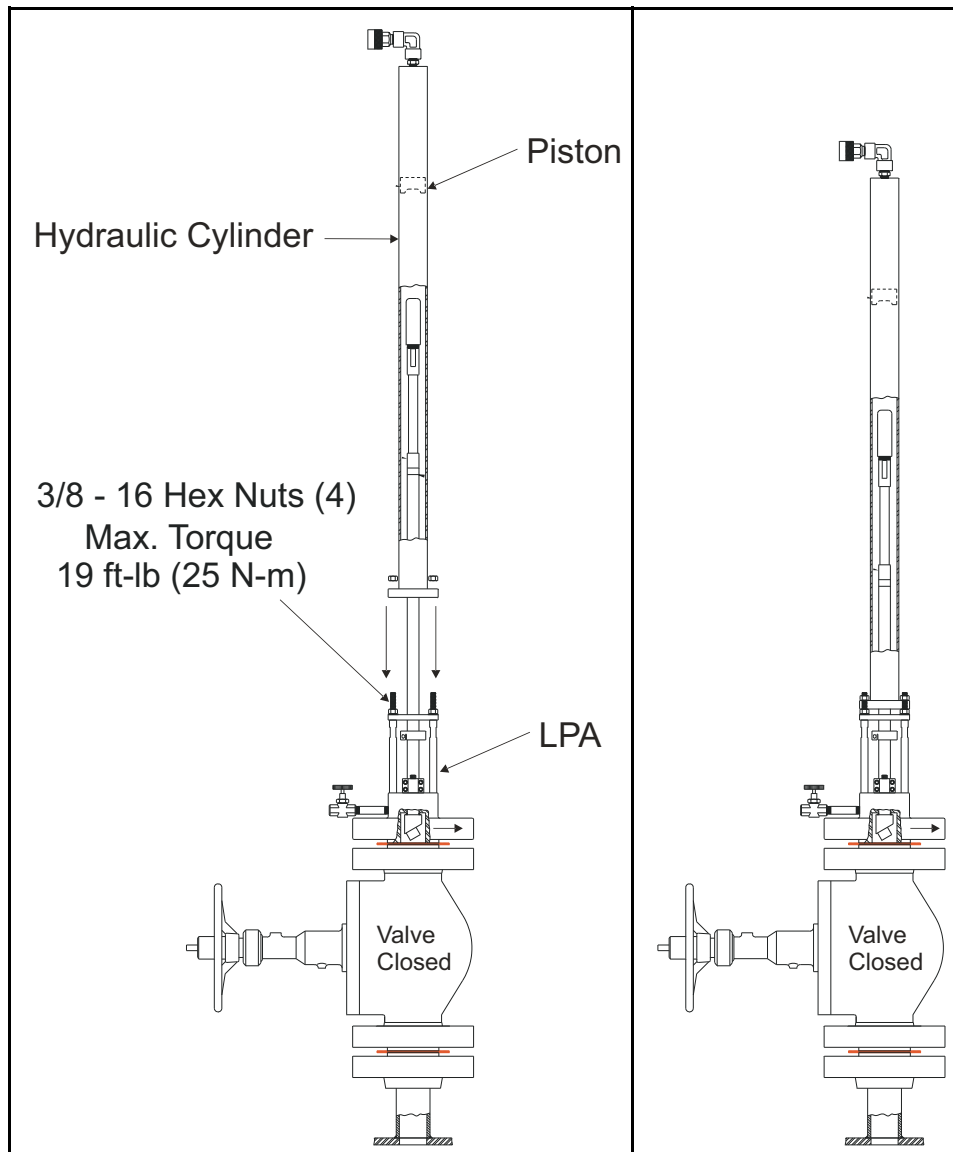

Figure 20: Attaching the Hydraulic Cylinder
- Refer to *Figure 20* below and attach the hydraulic cylinder to the four studs of the LPA with four 3/8-16 hex nuts. Tighten the nuts to a maximum torque of 19 ft-lb (25 N-m).